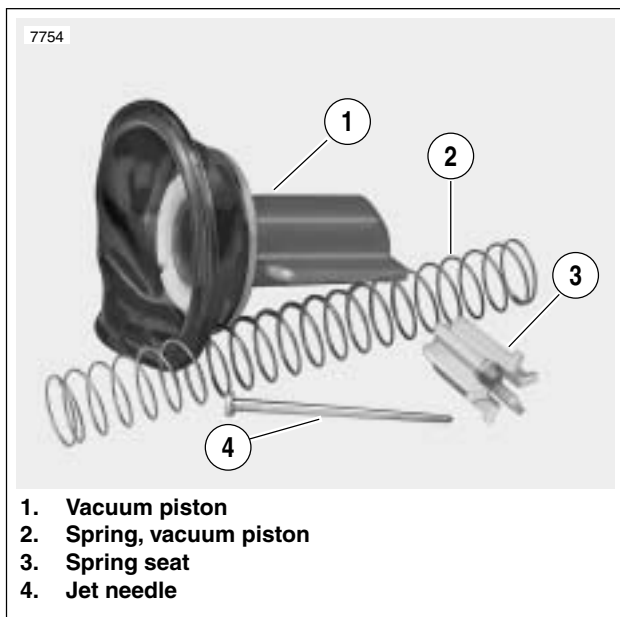

Figure 4-11. Carburetor-Top End Components
3. Remove vacuum piston spring. Carefully raise diaphragm to remove vacuum piston assembly. Remove spring seat and jet needle from vacuum piston bore. See Figure 4-11.
1. See Figure 4-11. Thoroughly clean all loose parts (except diaphragm) with carburetor cleaner. Blow dry using low pressure compressed air.